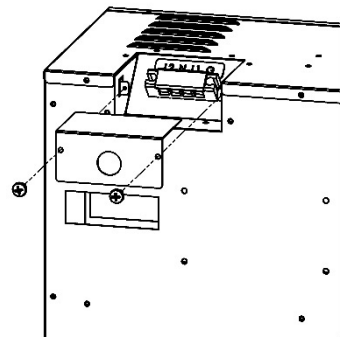

Fig. 5-1
Only 3 terminals will be used in the appliance junction box (Fig 5-1): white (neutral), black (power L1), and green/bare (ground) that are connected to 120V power source (circuit breaker panel).
- Remove the 2 securing screws from the junction box cover plate, located on the top left-hand, back-side of the appliance (Fig. 5-1).